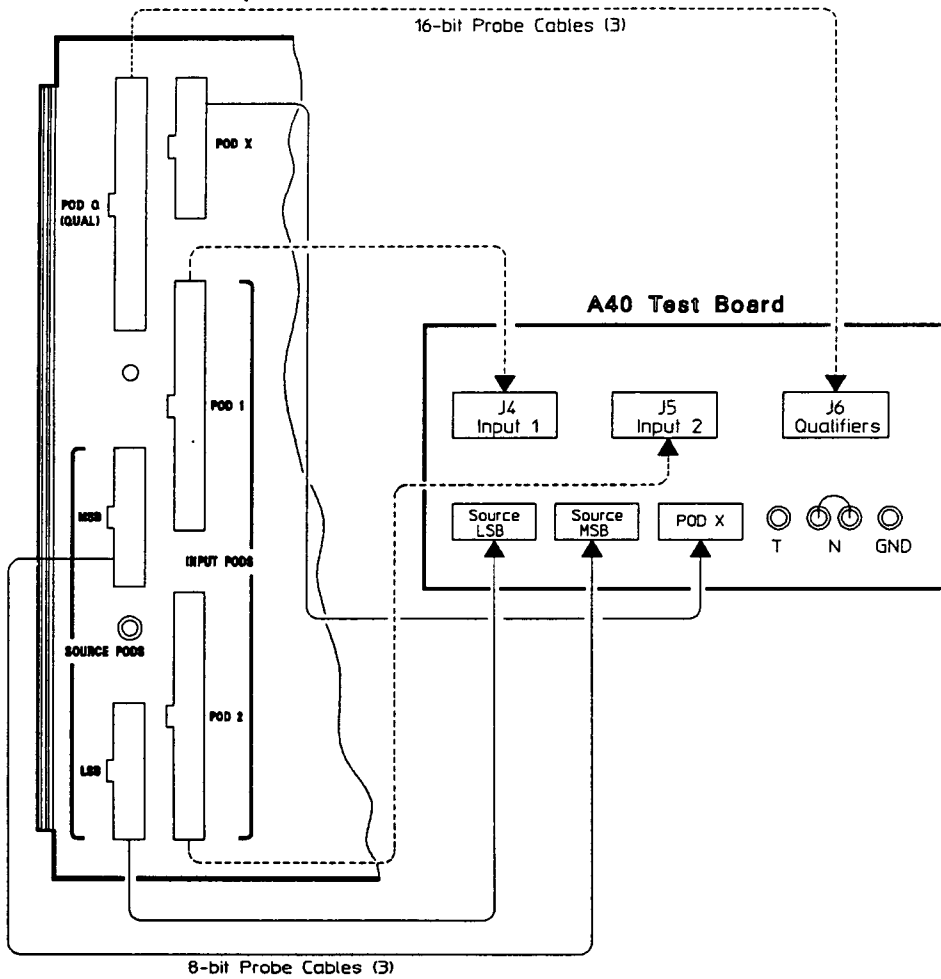

Figure 7-12. Digital Input/Output Test Setup
2. Using the cables, connect the test board to the rear panel of the HP 3563A as shown in figure 7-12.
3. Verify the jumper is in the normal (N) position.